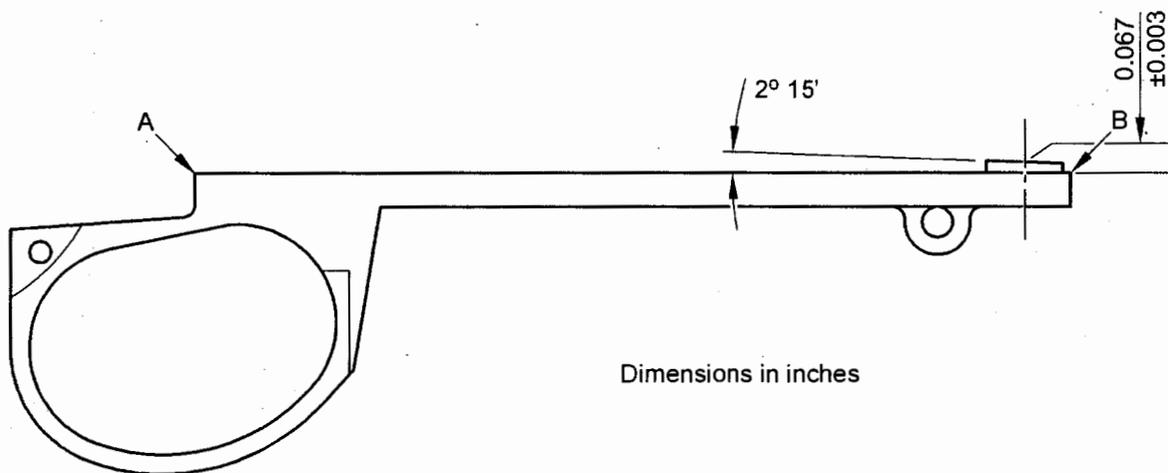

Fig 2 Correct form of trigger guard
- 17.4 The trigger guard profile, particularly line A-B of Fig 2 is correct. Distorted guards should be re-set on a flat surface. Guards with distorted bows should be replaced.